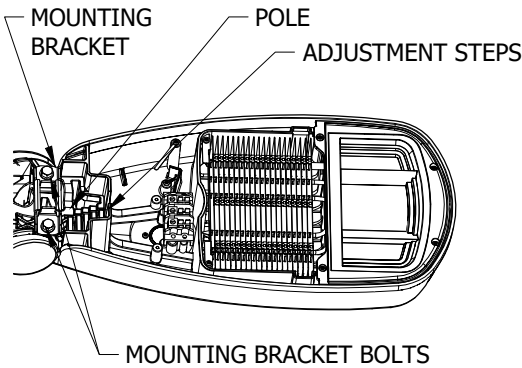

FIGURE 7
1. SLIDE FIXTURE ON TO A MINIMUM 8" LONG TENON (MAST), THROUGH OPENING ON THE REAR OF HOUSING. SEE **FIGURE 7**.
4. WHEN TIGHTENING BOLTS, MAKE SURE TO ALTERNATE BETWEEN BOLTS TO KEEP BRACKET STRAIGHT. TIGHTEN MOUNTING BOLTS TO THE APPROPRIATE TORQUE VALUES AS SPECIFIED IN THE MANUFACTURER INSTALLATION GUIDE. DO NOT OVER TIGHTEN. SEE **FIGURE 7** FOR BOLT LOCATION.